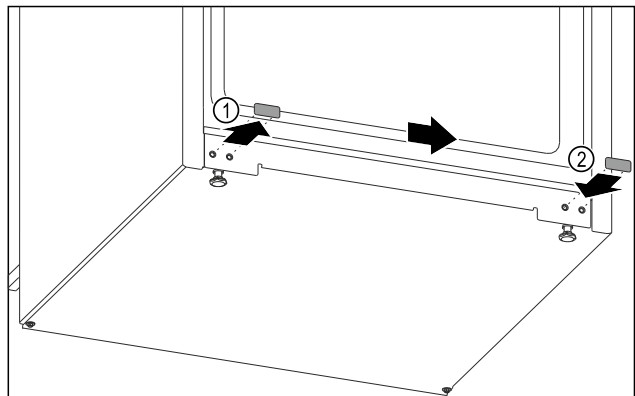

Fig. 10
- ▶ Pull out the cover plug. Fig. 10 (1)
- ▶ Insert the cover plug on the opposite side. Fig. 10 (2)